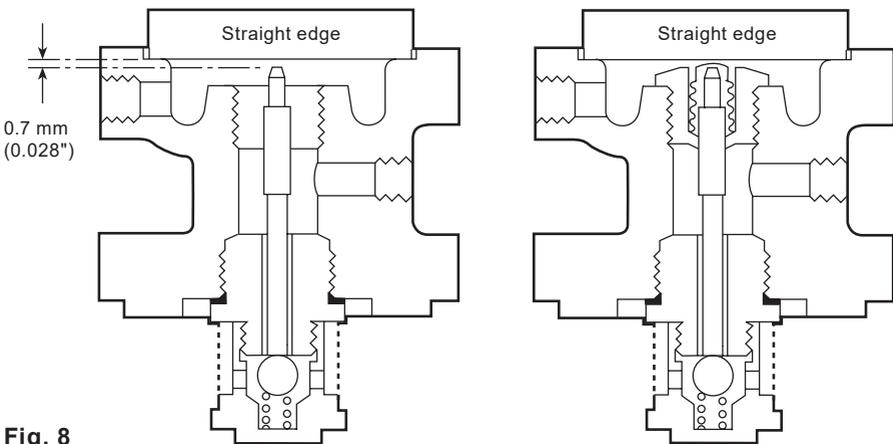

Fig. 8
2. Release the lock-nut (2) and turn the adjustment screw (1) anticlockwise until the spring is slack.
3. Slide out the 'C' washer (3) from underneath the lock-nut and remove the cover (12).
4. Remove the spring (6) and top spring plate (5).
5. Undo the 4 x M10 nuts (8) and remove the spring housing (4), bottom spring plate (7) and the diaphragms (9).
7. Undo the nuts (21) and remove the pilot valve housing (10) making sure that the main valve spring (16) is still positioned correctly on top of the main valve head (17).
8. Unscrew the pilot valve assembly (13) which includes the integral strainer screen (14) by using a 27 mm A/F socket and also remove the plunger (11).
9. Unscrew the bellows seal assembly (31) using a 24 mm A/F socket. If necessary this bellows seal assembly can be replaced.
10. With the bellows seal still removed screw in the new pilot valve assembly (13) and tighten down to a torque of 115 N m.
11. Insert the plunger (11) in from the top and check that there is a gap of 0.7 mm between the top of the plunger and a straight edge placed across the diaphragm location recess (See Figure 8).
13. Check with straight edge again, that with the top of the bellows pressed lightly onto the top of the plunger, there is a slight clearance - a mere line of light between the straight edge and the top of the bellows (see Figure 8).
14. Before reassembling the valve make sure that the gasket faces on both the pilot valve block and the body are clean and that the main valve spring (16) is positioned correctly on top of the main valve head.
15. Fit new gasket (15) and secure the pilot valve block assembly onto the body with the nuts (11). Tighten these nuts to the torques shown in Table 1, page 20.
17. Refit the two diaphragms (9) making sure that they are fitted the same way round as they were removed and that all contact surfaces are clean. If necessary two new diaphragms can be fitted.
18. Place the bottom spring plate (7) in position and secure the spring housing with the 4 x M10 nuts (8) tightening to a torque of 50 N m.
19. Replace the spring (6) and the top spring plate (5) turning the adjustment screw (1) until it just locates on the top spring plate. Replace the cover (12) and the 'C' washer (3).